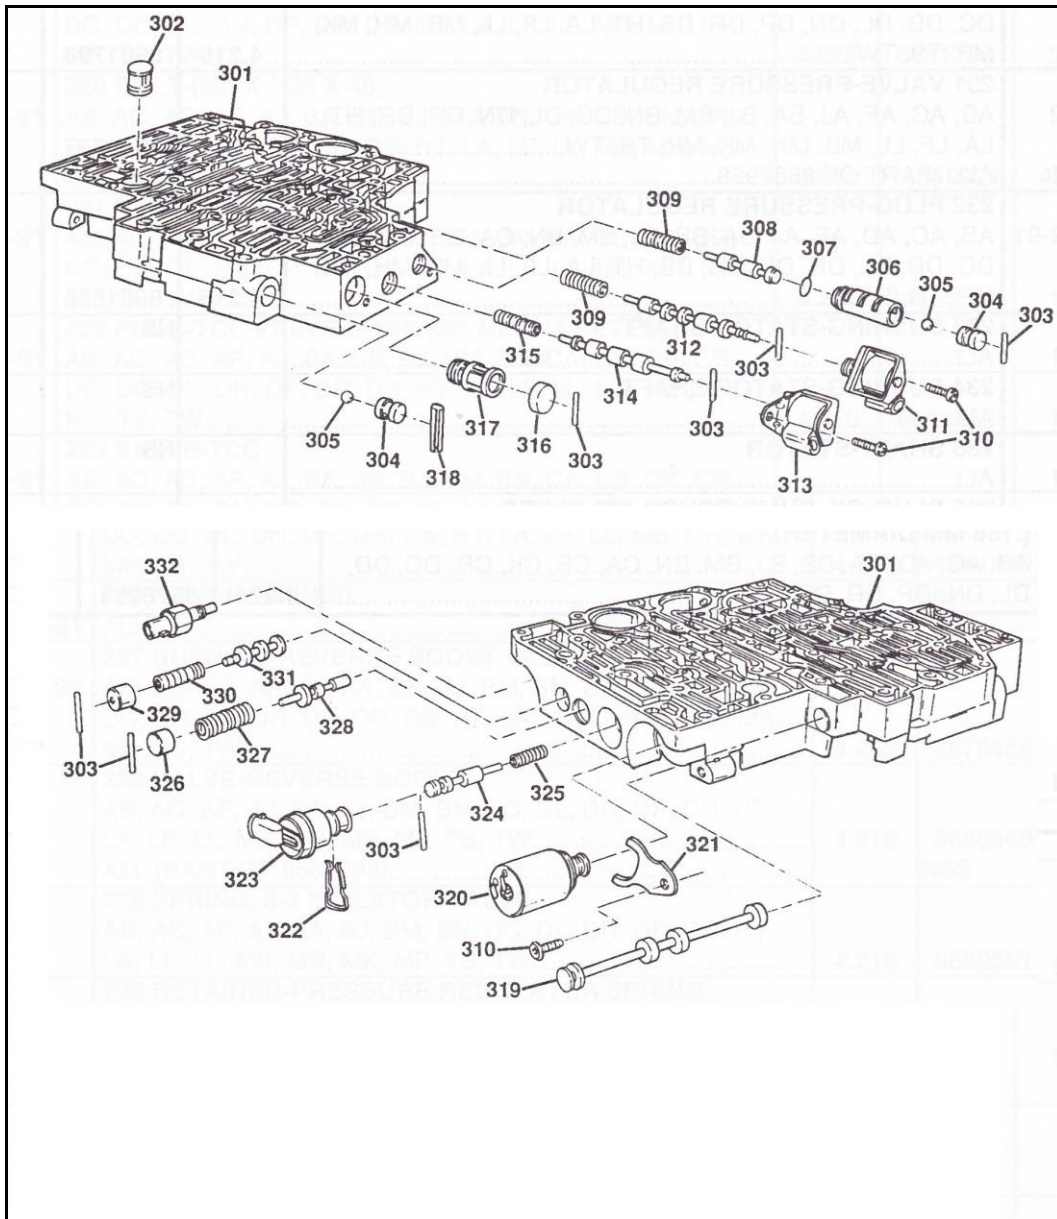

FIGURE 2
Remove the Coiled Spring Pin (303) and Accumulator Valve Bore Plug (329) from the valve body assembly. Replace the plug with the one supplied in this kit. Seat the O-ring in the plug by rolling it several times across a flat surface. Lubricate and install into valve body using the supplied bolt as an installation tool. Reinstall the coiled spring pin. See Figure 2.